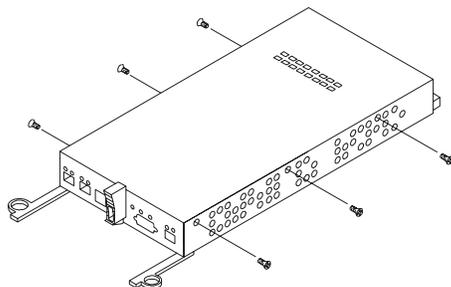

Figure 72. Controller battery-access panel screws
6. To access the cache battery, place the RAID controller CRU bottom up on a flat surface. Using a #2 Phillips head screwdriver, remove the six screws (three on each side of the RAID controller) that hold the RAID controller bottom panel to the sides of the RAID controller, as shown in Figure 72 on page 90.
12. Place the replacement RAID controller CRU bottom up on a flat surface. Using a #2 Phillips head screwdriver, remove the six screws (three on each side of the RAID controller) that hold the RAID controller bottom panel to the sides of the RAID controller, as shown in Figure 72 on page 90.
9. Place the RAID controller CRU bottom up on a flat surface. Using a #2 Phillips head screwdriver, remove the six screws (three on each side of the RAID controller) that hold the RAID controller bottom panel to the sides of the RAID controller, as shown in Figure 72 on page 90.